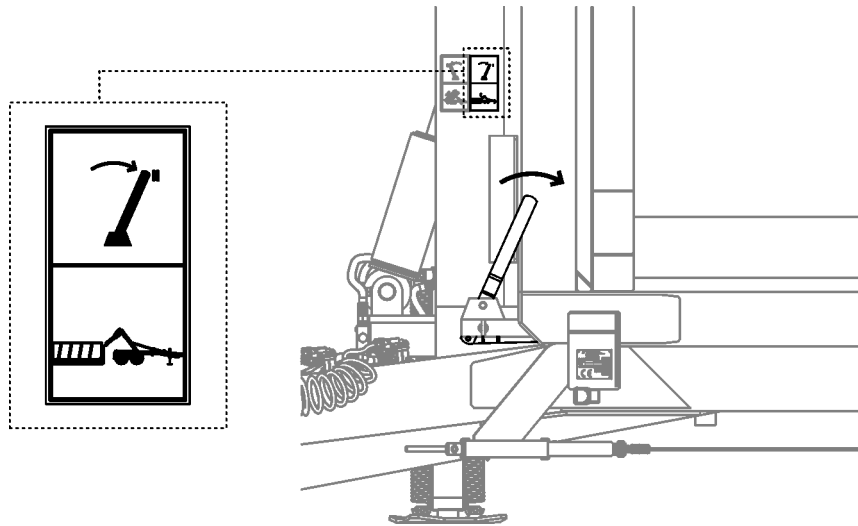

FIG. 22. POSITION OF THE LEVER FOR CONTAINER UNCOUPLING/COUPLING
- Set the control lever to II (Fig. 22).